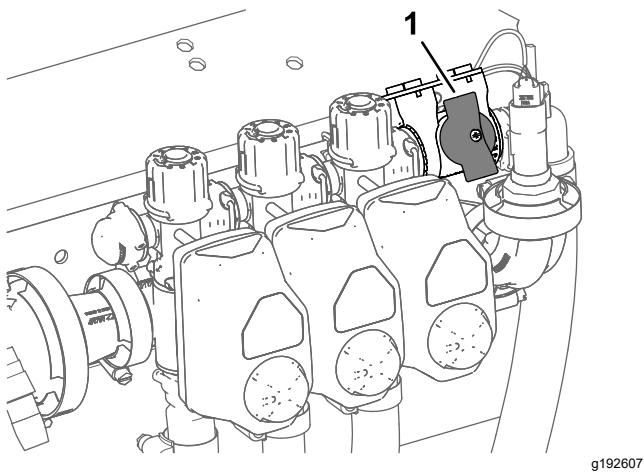

Figure 43
4. For machines operated in the application-rate mode, ensure that the knob for the section-bypass shutoff valve is in the closed position (Figure 43).
5. For machines operated in the application-rate mode, ensure that the section-bypass shutoff valve is closed (Figure 43).